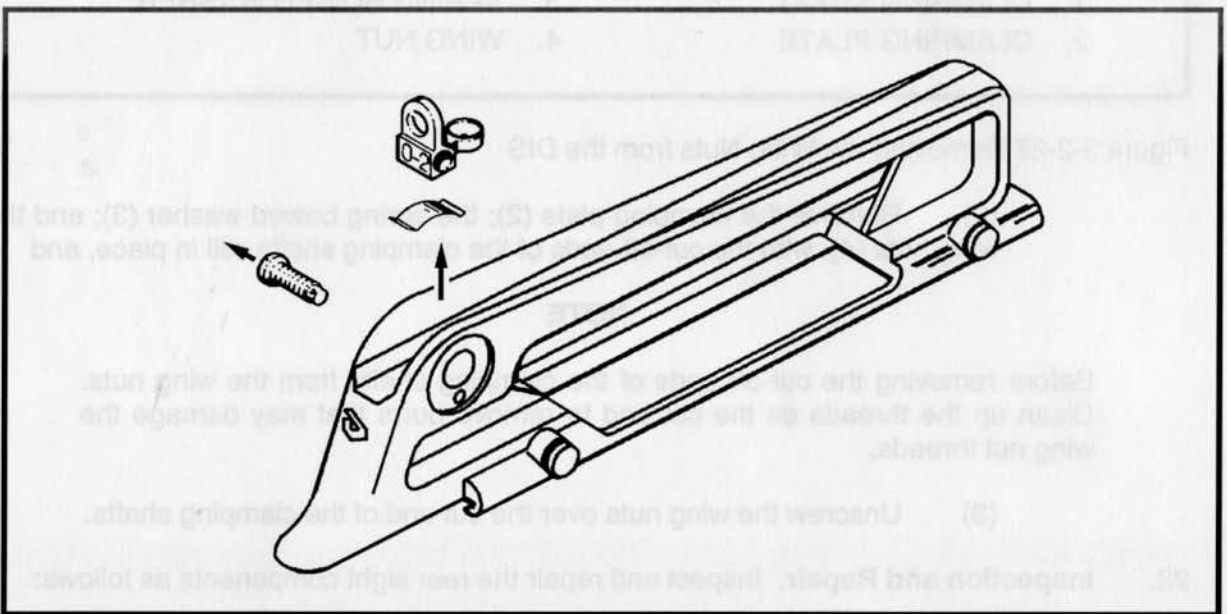

Figure 3-2-26 Removing the Rear Sight
- e. Remove the rear sight windage screw (1), rear sight (2) and rear sight spring (3). See Figure 3-2-26.